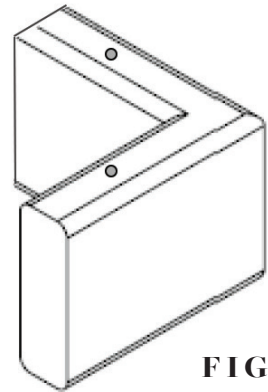

FIG 17.
- Once corner mitre has been fitted together, neatly drill 2x 3.5mm locating holes down through the top of the sliding door track (in the centre of the rebated slot) and 3. mm pilot holes (3 mm deep) into the nylon corner block (**FIG 17**).
- Use 2mm setting blocks on top of fixed glass panels to prevent the sliding door track metal directly contacting the glass (**FIG 17**). Dry fit and position on top of glass.